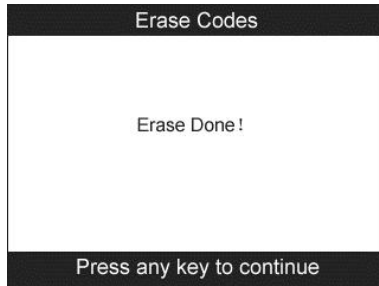

Figure 5.7
- If the codes are cleared successfully, an “**Erase Done!**” confirmation message shows on the display.(Figure 5.7)